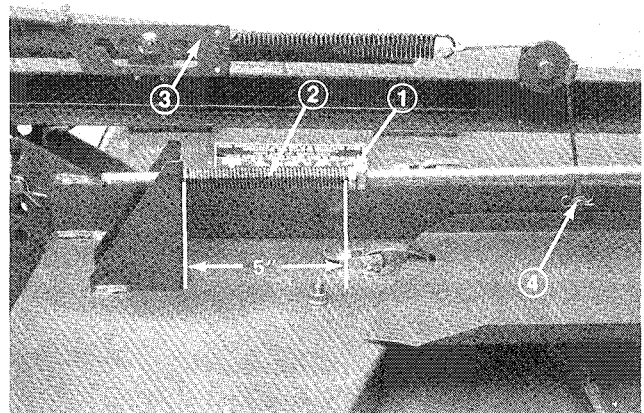

Figure 5
7. Move tension adjustment bracket rearward into forward notch (Fig. 5).
8. Secure cable end to pin on deck support bar with a washer and hairpin cotter (Fig. 5). Repeat procedure on opposite side of deck.